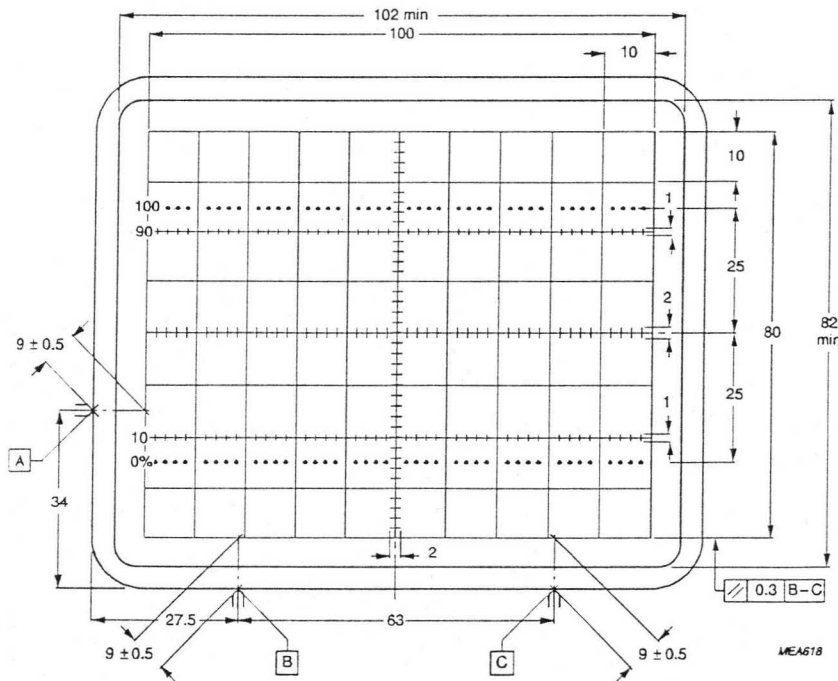

Fig.4. Front view of tube with internal graticule, type 123.
1. Because the frit seal is visible through the faceplate, and is not necessarily aligned with the internal graticule, application of an external passe-partout with an open area of max. 102 mm x 82 mm is recommended. The internal graticule is aligned with the faceplate by using the faceplate reference points (see Fig.4).
Internal graticule	type 123 (see Fig.4)
The tube can be mounted in any position. It must not be supported by the socket and not by the base region alone. The reference points on adjoining edges of the faceplate (see Fig.4) enable the tube to be positioned accurately in the front panel, for optimum alignment of the internal graticule.
- (1) Dimensions of faceplate only. The complete assembly of faceplate and cone (frit seal included) will pass through an opening of 122 mm x 102 mm (diagonal 153 mm).
- (2) Reference points on faceplate for graticule alignment (see Fig.4)
- (3) The centre of the final accelerator contact is situated within a square of 10 mm x 10 mm around the indicated position.